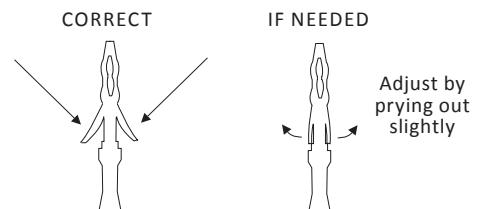

Figure 4-5
5. Examine the retaining flanges on the pin, as they may have become damaged during the process of routing the harness through the vehicle. These retaining flanges are crucial to securing the pins inside the connector. Adjust these flanges as needed. **See Figure 4-5.**